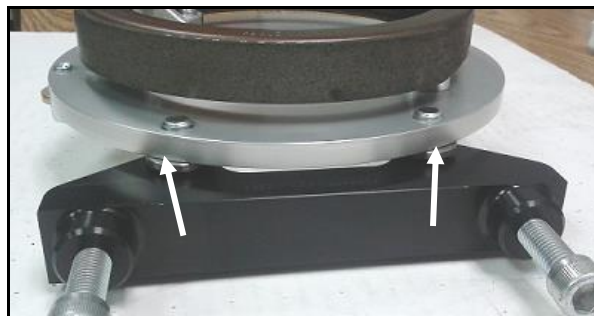

Figure 6: Shim location
4. Install the appropriate shims (between the slider pin head and banksia plate), removing one bolt at a time, and snug the same bolts for fit check. See Figure 6 for reference. Install the caliper again for clearance check.